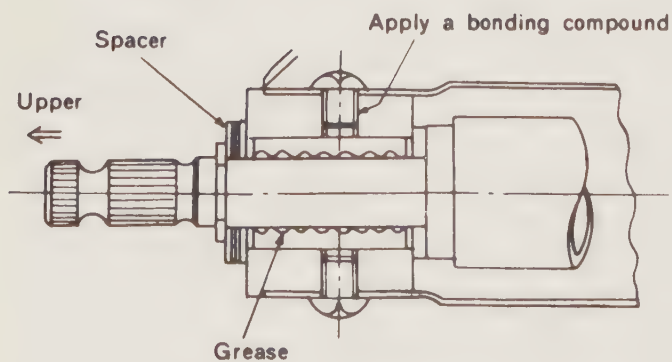

Fig. 8.4. Adjusting steering shaft endfloat
- 7 Insert the steering shaft into the steering column from the bottom end. Check the endfloat of the shaft. If it exceeds 0.01 in (0.3 mm) add a spacer as shown in Fig. 8.4.